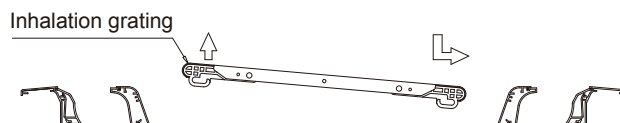

Figure 3.12
- (1) Lift one side of the air inlet grille (no directionality), and press the other side down. Then slide in the direction of the arrow as shown in Figure 3.12.